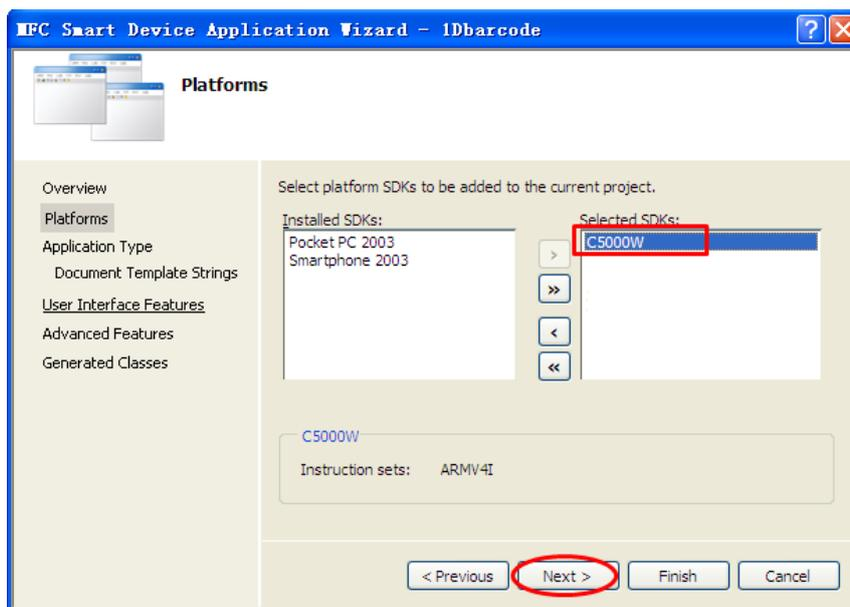

Figure6.1-13
5) Click **Next** to enter SDK to select platforms (Figure6.1-13), here you can move the platform named **C5000** to the right section and the ones to the left section.